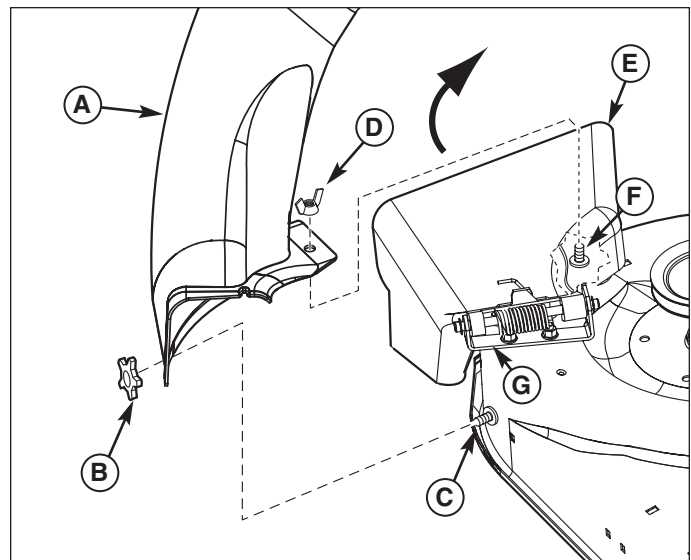

**Figure 12. Install Collector Bags**
1. Raise the cover (A, Figure 12).
2. Slide collector bags (B) onto tubes (C) with the white bar towards the rear.